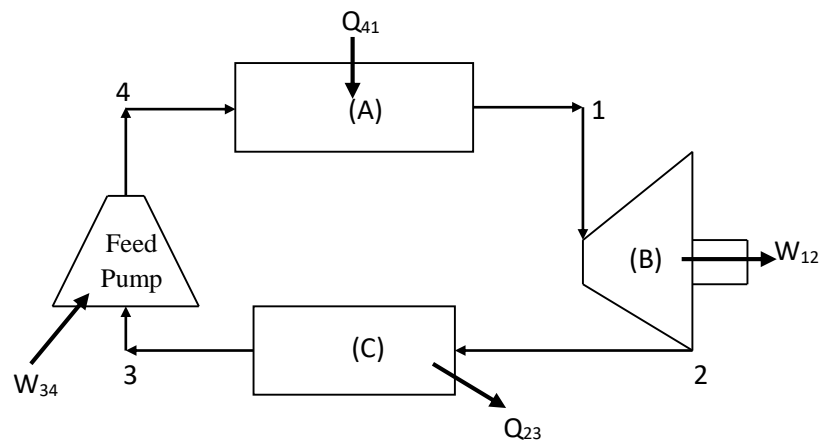

Figure Q4 (b)
- (b) Explain the function of components (A), (B) and (C) in a simple close cycle steam plant as illustrated in the Figure Q4 (b).